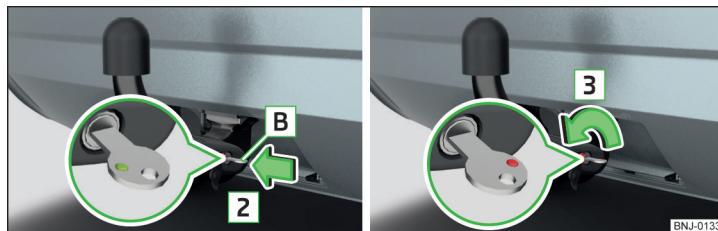

Fig. 138 Insert the key into the lock / unlock the lock
- Insert the key **B** into the lock in the direction of arrow **2**, so that its green marker points upward » Fig. 138.